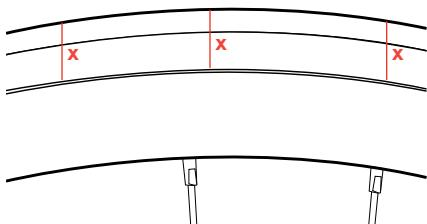

Figure 27. Correct. Make sure the mold line of the tire is equal (X distance) with the rim all the way around.
8. Check for correct tire bead engagement in the rim (Figures 27 and 28).
11. Re-check for correct tire bead engagement (Figure 27 and 28).